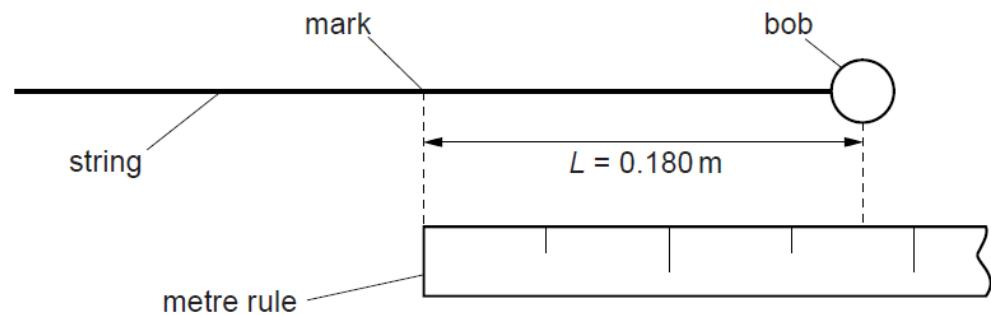

Fig. 1.1
- (a) (i) Lay the pendulum next to the rule and use the pen to make a mark on the string so that the distance L is 0.180 m, as shown in Fig. 1.1.